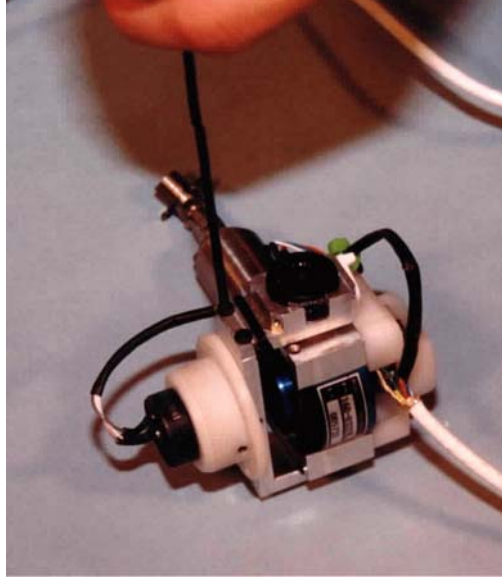

Figure 17.4- Bolt location for disassembly
3. Locate the Left DGSP Unit (T1DPM000). Remove the two #4-40 x 3/8" SHCS {3/32} that hold the Right Yoke Arm (T1DPM213) to the Left Yoke Arm (T1DPM212) and Gimbal Assembly (T1DPM200), as shown in **Figure 17.4**.